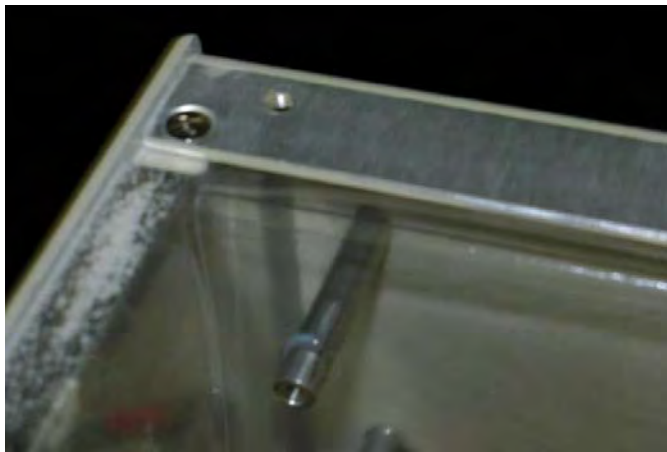

Figure 1-14. View of splashguard placement.
11. Remove the two shield pieces. Notice that the splashguard goes under the chassis on the top and over the chassis on the bottom. See Figure 1-14. When you replace the splashguard, ensure it is oriented in this manner.